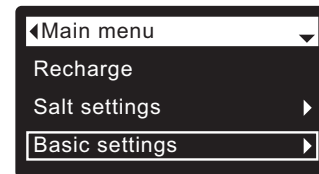

FIG. 50
1. From any of the rolling status screens, press the SELECT (O) button to display the **Main menu**.
2. Press the DOWN (▼) button to scroll through the menu options until **Basic settings** is highlighted (See Figure 50).